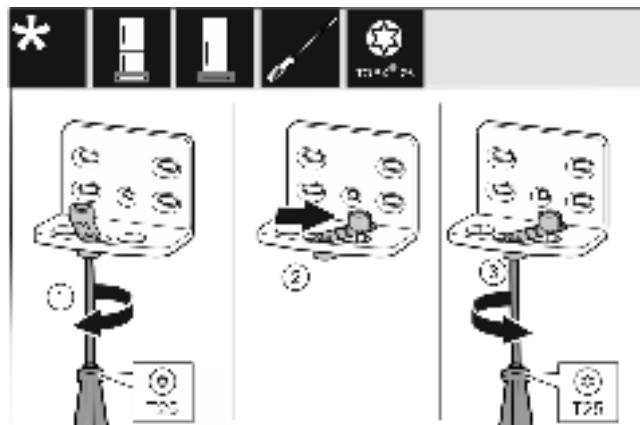

Fig. 14
- Loosen the screw using a T25 screwdriver. Fig. 14 (1)
- Lift the door closing aid and turn it 90° to the right in the hole. Fig. 14 (2)
- Tighten the screw using the T25 screwdriver. Fig. 14 (3)